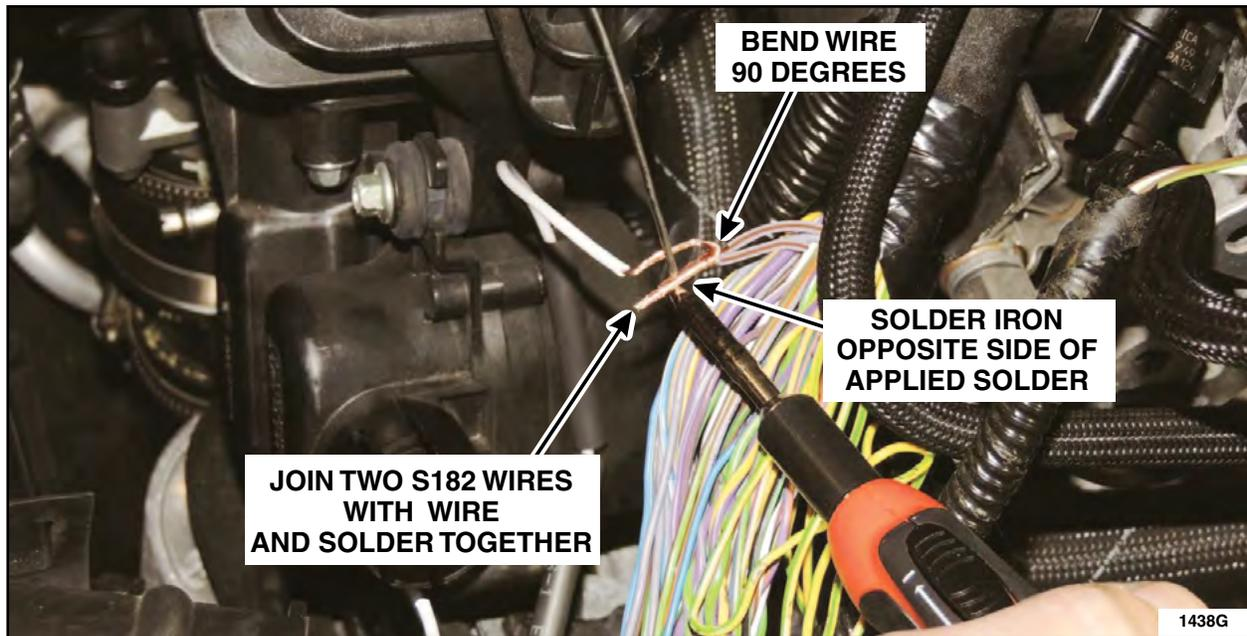

FIGURE 9
13. Join the two Gray/Brown wires on the engine side of the harness with one end of the previously prepared 40.6 cm (16 in.) length of wire. Twist 13 mm (0.5 in.) of the ends of the wires together and bend the splice wire 90 degrees to the harness wire at the end of the twisted area. Solder the wires together using lead free electrical solder, with the heat being applied opposite of the applied solder. See Figures 9 and 10.